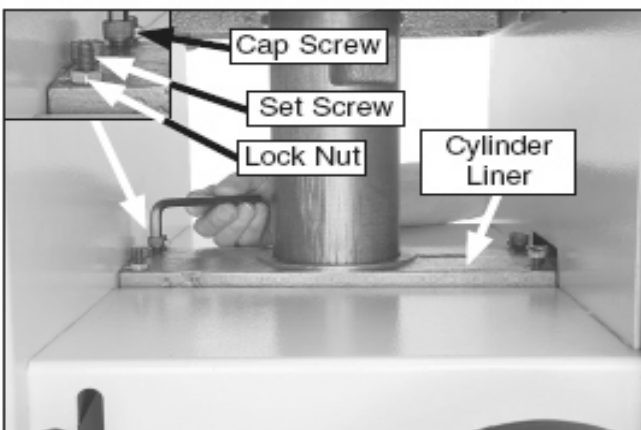

Figure 56. Adjusting table parallelism.
3. Loosen the four cap screws on the cylinder liner, as shown in **Figure 56**.
If the table is not parallel to the cutterhead side-to-side (**Figure 56**), loosen the two lock nuts on the right or left side of the cylinder liner. Adjust the set screws to raise or lower the table so it is parallel to the cutterhead.